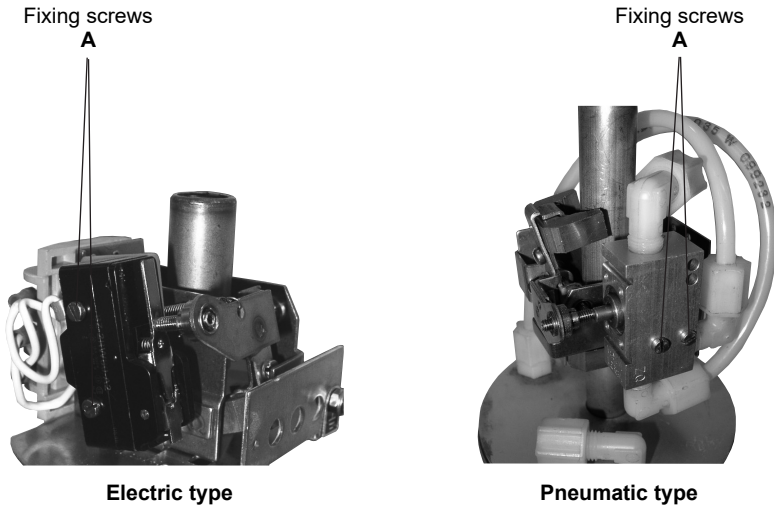

Fig. 6 - Switch mechanism
- 2 - Loosen the screw for fastening the mechanism (Fig. 6) and remove the latter from the enclosing tube.
Remove the fixing screws (see Fig. 6) and then the switch.
- 4 - Manually check the lever of the magnet holder ensuring that the switch opens and closes correctly. If necessary make adjustments with screw "C" (see Figs. 6 and 7).
Check that the adjusting screw "C" and the valve's control switch "E" are aligned (Figs. 6 and 7). Make sure that the valve switches properly, by manually actuating the magnet carriage.